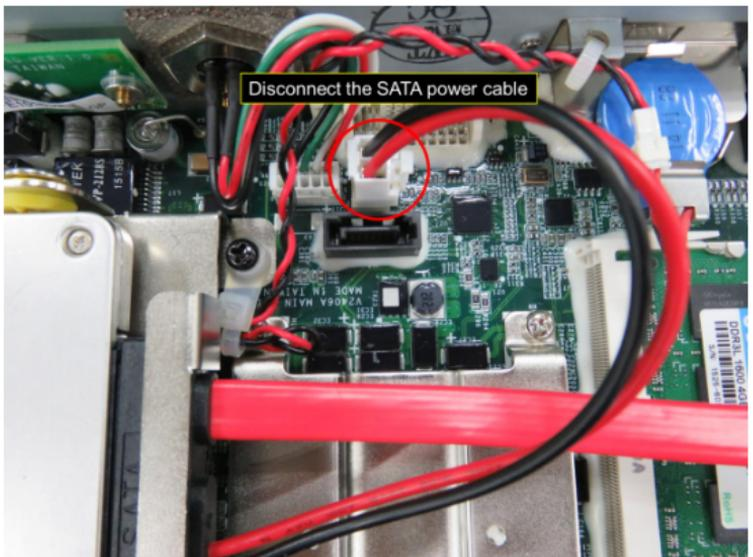

Figure 19
- 4.2.2.2 Disconnect the SATA power cable from the main board as shown in Figure 19.